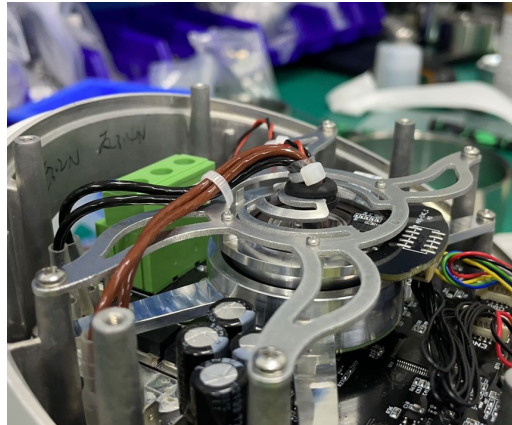

Figure 3-20 Wiring and tying
- Tie the wires with heat shrink tubes onto the wire guard to prevent detachment or displacement. Connect the brown wire to positive pole and black wire to GND pole. Plug the 485 wire into the specified port. The wires excess the necessary length need to be wrapped around the wire track and zip tied to keep in proper position as shown in Figure 3-20: